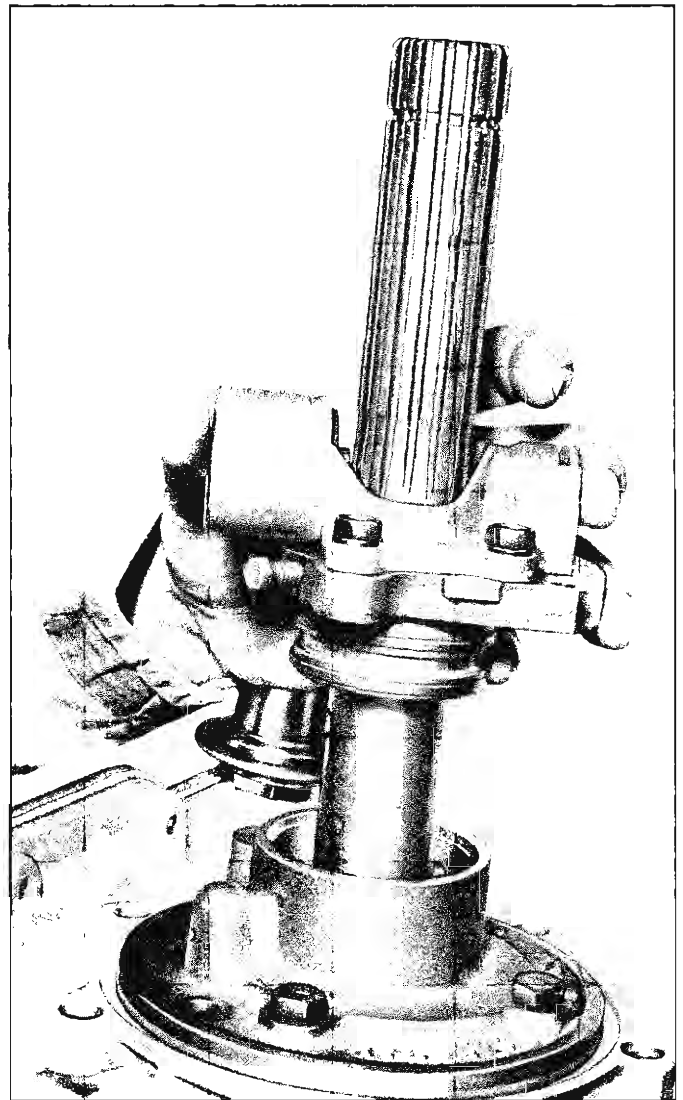

Fig. 9—Removing Governor Assembly
7. Loosen the governor drive screw and remove the governor assembly over the end of the output shaft (fig. 9).